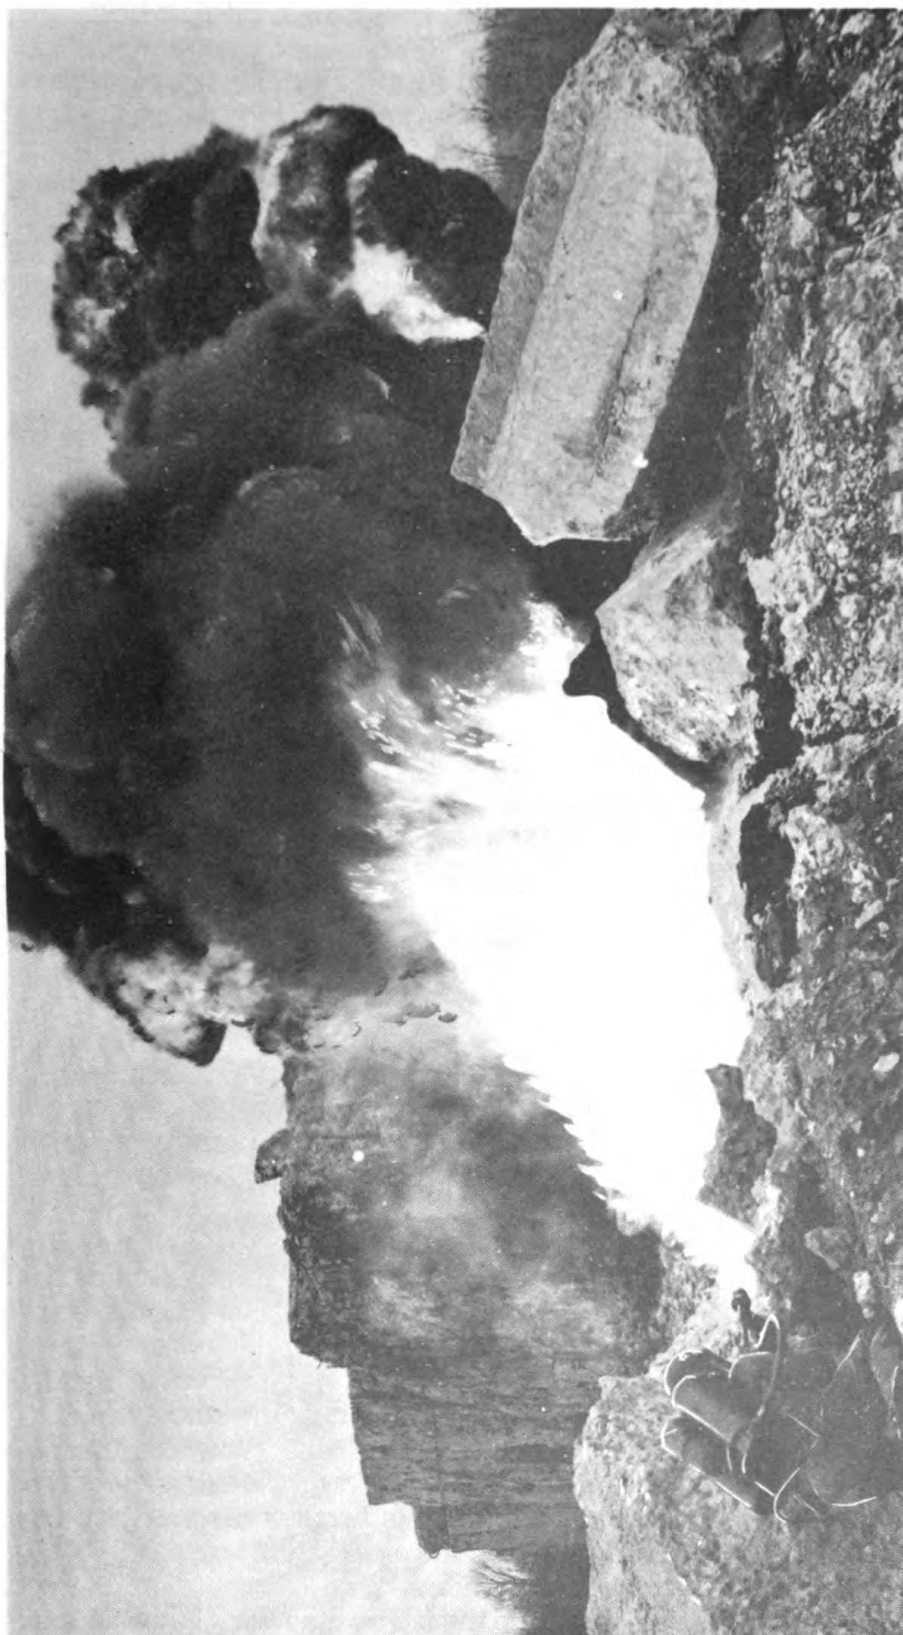

Fig 21. Flame (liquid fuel) hitting target.
d. Liquid fuel. With liquid fuel, the greatest effect may be obtained by placing the flame directly on the target. (Fig 21)